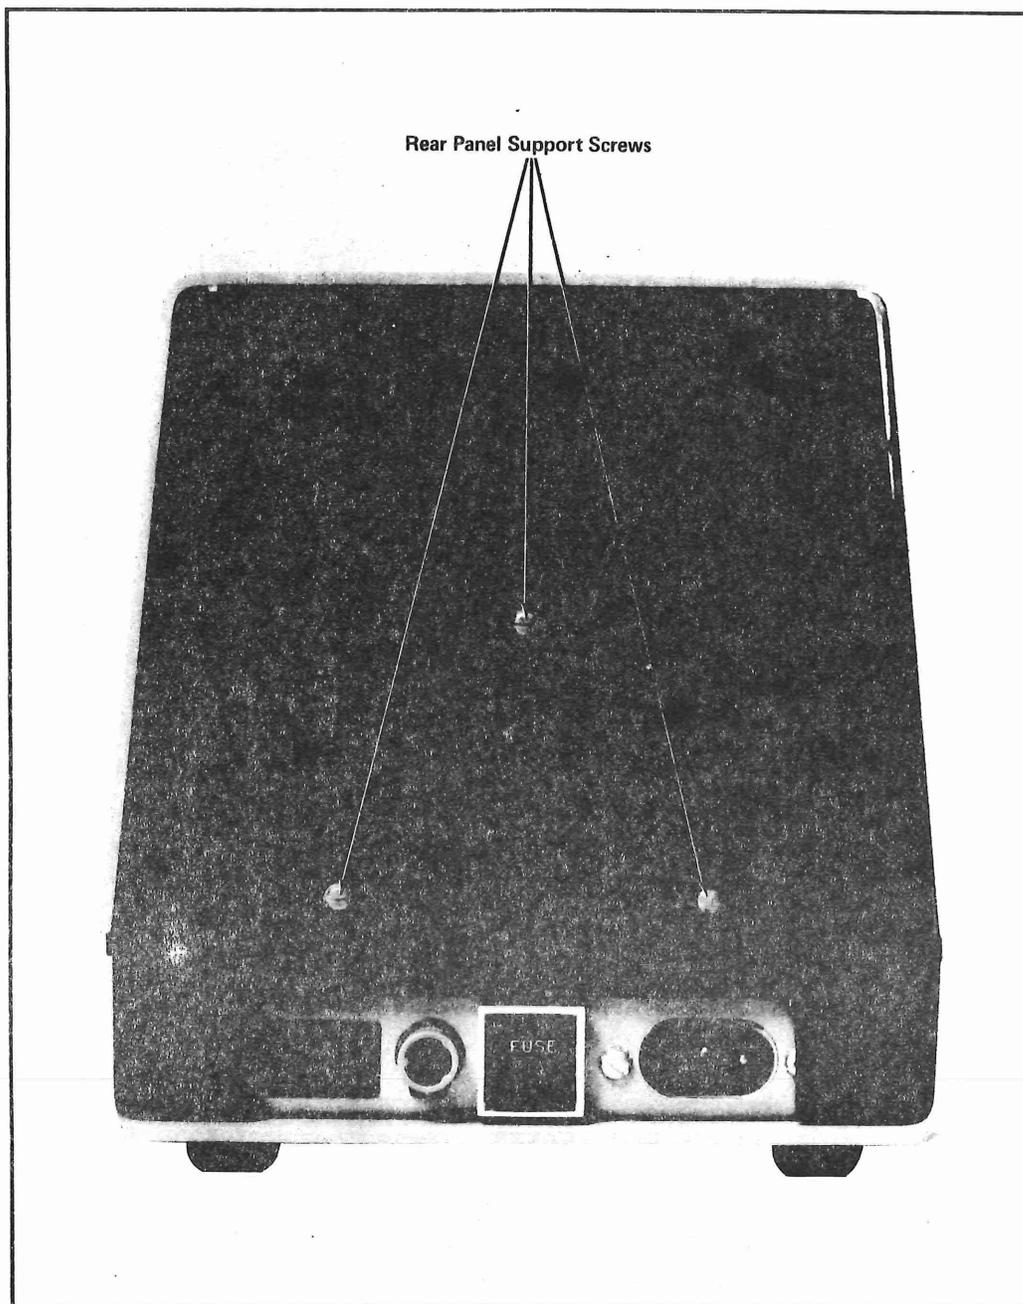

Figure 4-2. Terminal Rear View
- (e) Remove the three #4-40 screws from the back of the terminal. (See figure 4-2.)
- (e) Attach the back panel to the chassis with three #4-40 screws. (See figure 4-2.)